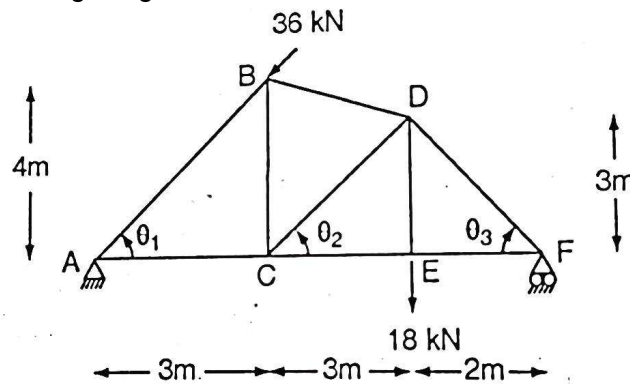

Figure 1
- Q.1(a) Find the internal forces developed in the member BD and CD of truss as shown in Figure 1, [5] CO 1 BL M